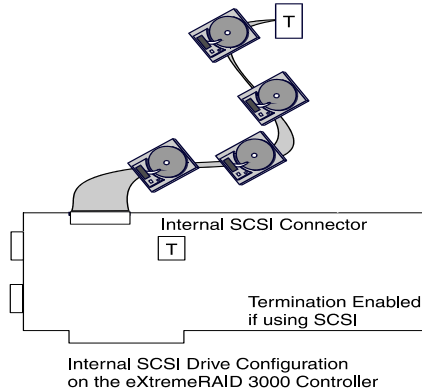

Figure 5. Internal SCSI Configuration and Termination
6. Connect a wide, high-density, 68-pin SCSI ribbon cable to the internal SCSI connector on the eXtremeRAID 3000 controller and connect the other cable connectors to any SCSI devices as required (see Figure 5). eXtremeRAID 3000 always has the on-board SCSI termination enabled.
7. Connect an active terminator to the end of the SCSI ribbon cable at the end farthest from the controller (see Figure 5).